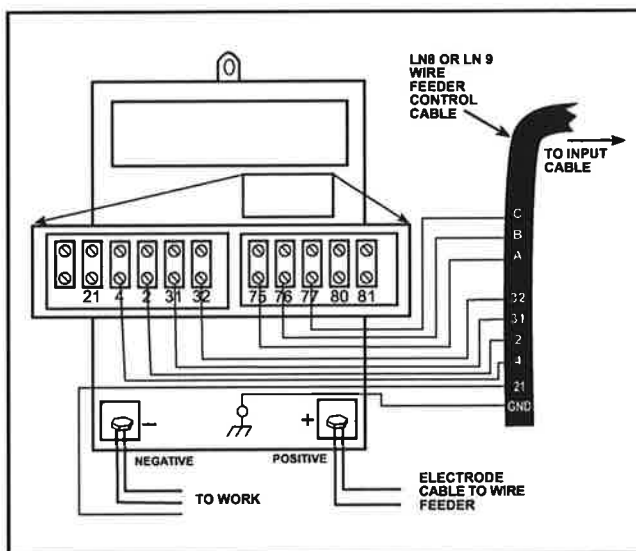

FIGURE C.6 - NA-5 WIRE FEEDER CONNECTION TO THE IDEALARC DC-600
3. Connect the wire feeder control cable leads to the IDEALARC DC-600 terminal strip as shown in Figure C.6.
NOTE: The connection diagram shown in Figure C.6 shows the electrode connected for positive polarity. To change polarity: